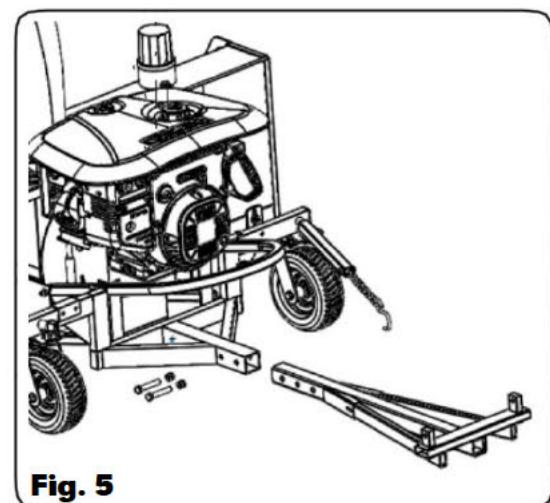

**Fig. 3**
- Install the snow chute. Make sure the toothings on the chute engages correctly with the toothings on the rotary engine. Tighten the screws. (Fig. 3)